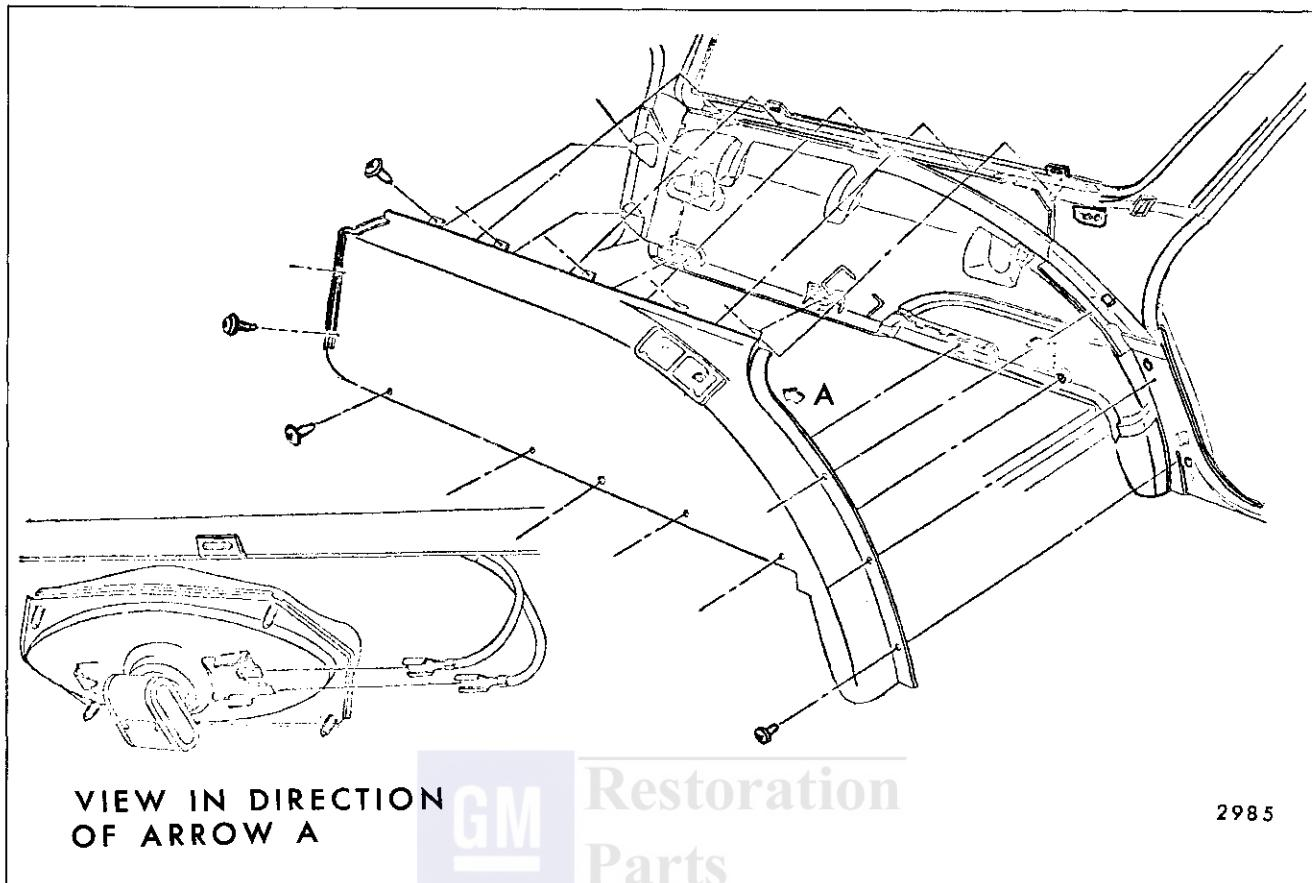

Fig. 14-33—Rear Quarter Rear Trim Panel (Left Side) - "A" Station Wagons
2. Remove screws at top, bottom, front and rear of trim panel as shown in Figure 14-33 and remove trim panel from body.
NOTE: On styles so equipped, disconnect rear radio speaker connectors as shown in view "A", Figure 14-33.